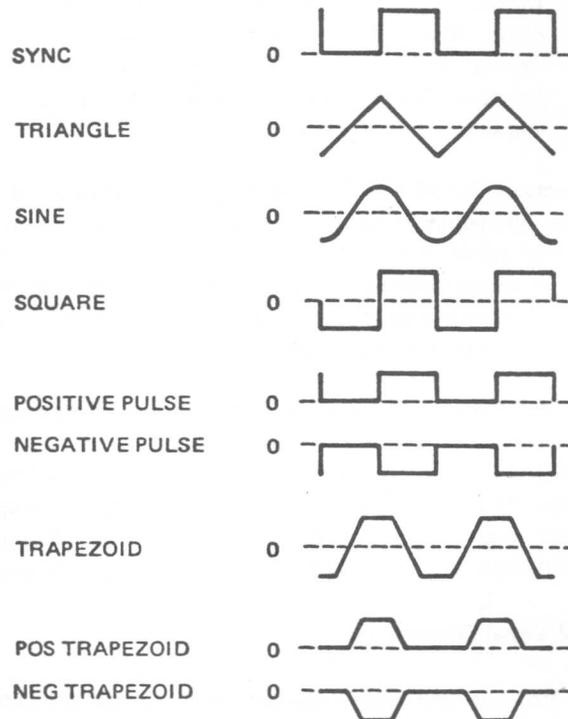

Figure 2-2. Selectable Waveforms and Sync Signal Phase and Polarity Relationships
Figure 2-2 for the sync signal relationship.
- 7. **SLOPE/WIDTH Control** – The small knob controls the slope of the trapezoidal waveforms. The large knob controls the time symmetry of the waveform. The setting of these controls does not affect the other waveforms. See Figure 2-2 for the sync signal relationship.
- 10. **50Ω OUT (HI)** – This is the selected waveform
13. **SYNC OUT** – This is a square wave (or rectangular if SYMMETRY control is in use) with the same frequency and same polarity of the selectable square wave at a 50Ω output. Amplitude into an open circuit is greater than 4 V p-p (2 V p-p into 50Ω). See Figure 2-2.